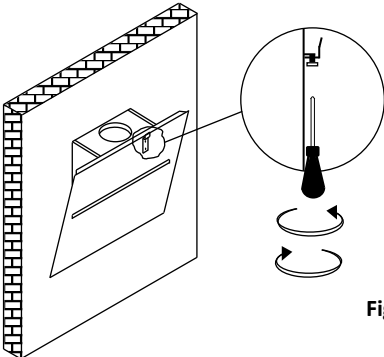

Fig 6
4. Hang the Hamlet over the bracket and fix with screws (Fig 6).